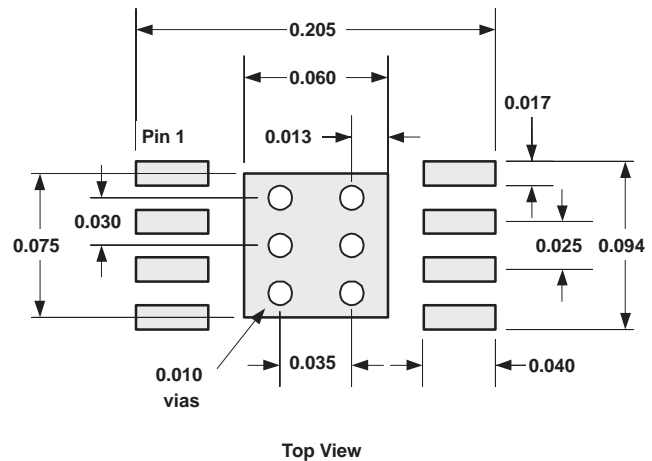

Figure 63. DGN PowerPAD PCB Etch and Via Pattern
- Prepare the PCB with a top side etch pattern as shown in Figure 63. There should be etch for the leads as well as etch for the thermal pad.